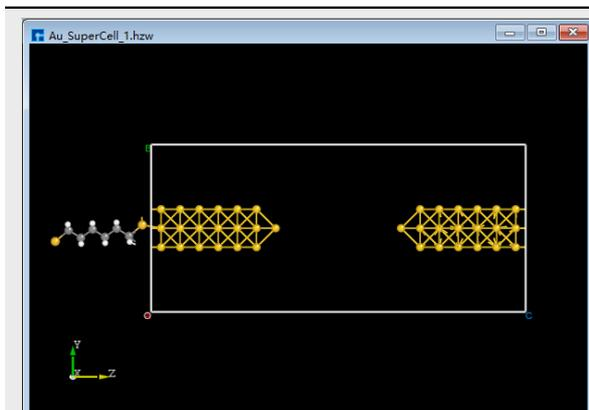

fig. 4.55: (a)
- (2) Double-click *Au_SuperCell_1.hzw* to open the Au_SuperCell_1 supercell structure. Box-select the alkanethiol molecule structure and press the shortcut key *Ctrl+C* to copy it. Click the left side of the interface in fig. 4.53 (b) and press the shortcut key *Ctrl+V* to paste the alkanethiol molecule structure into the Au_SuperCell_1 supercell structure, as shown in fig. 4.55 (a). To easily move the pasted alkanethiol molecule structure to the center of the Au_SuperCell_1 supercell structure, click the drop-down button to the right of the